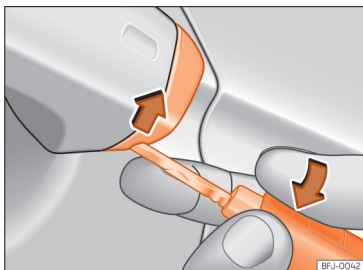

Fig. 72 Driver's door handle: pry the cover open.
- Insert the key shaft into the lower opening in the cover on the driver door handle then remove the cover upwards >>> Fig. 72.